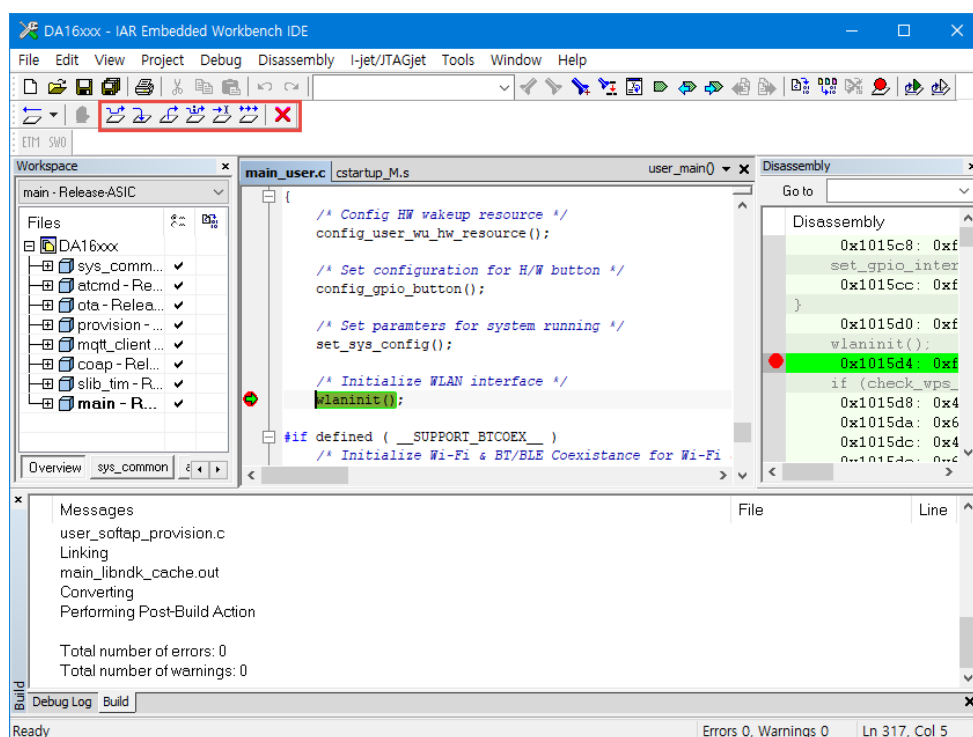

Figure 47: Break Point Window
- Pause Window on Break Pointer. See Figure 47.